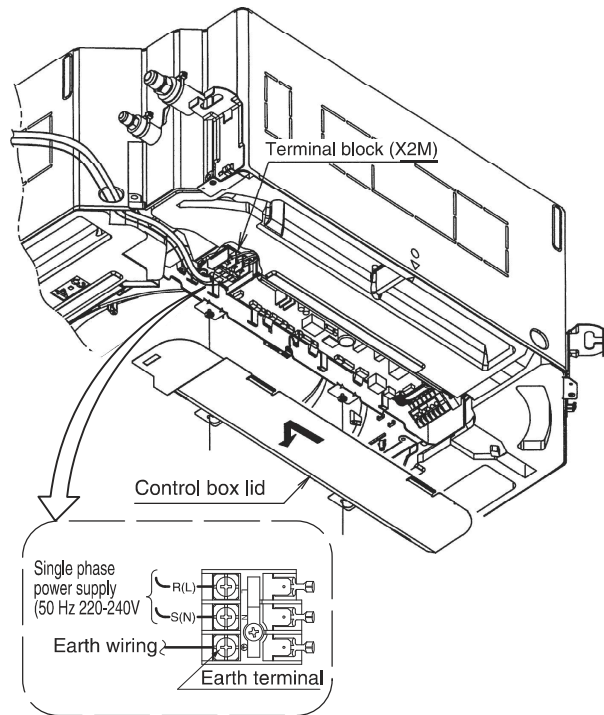

Fig. 20
1. Open the control box lid and connect the single phase 220 - 240 V power supply to the terminal (L, N) on the terminal block (X2M). Connect the earth wiring to the earth terminal. (Refer to Fig. 20)